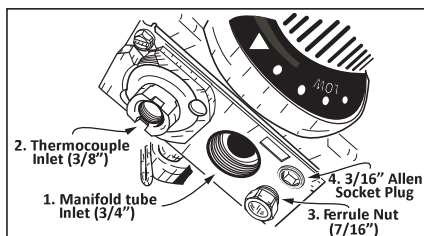

Figure 55 - New Gas Valve Ferrule Nut Removal
**3** Install the manifold tube to the gas control valve/ thermostat with a 3/4” wrench until snug. (See Figure 55)
**4** Remove the included ferrule nut from the new gas control valve/thermostat with a 7/16” wrench. Once the included ferrule nut is removed reinstall the pilot tube/ ferrule nut used on the old gas control valve/thermostat with a 7/16” wrench (See Figure 55).
**5** Install and tighten the thermocouple nut by hand. Once the nut is fully hand tightened, slightly turn the nut an additional 1/4 turn using the 3/8” wrench (See Figure 55).